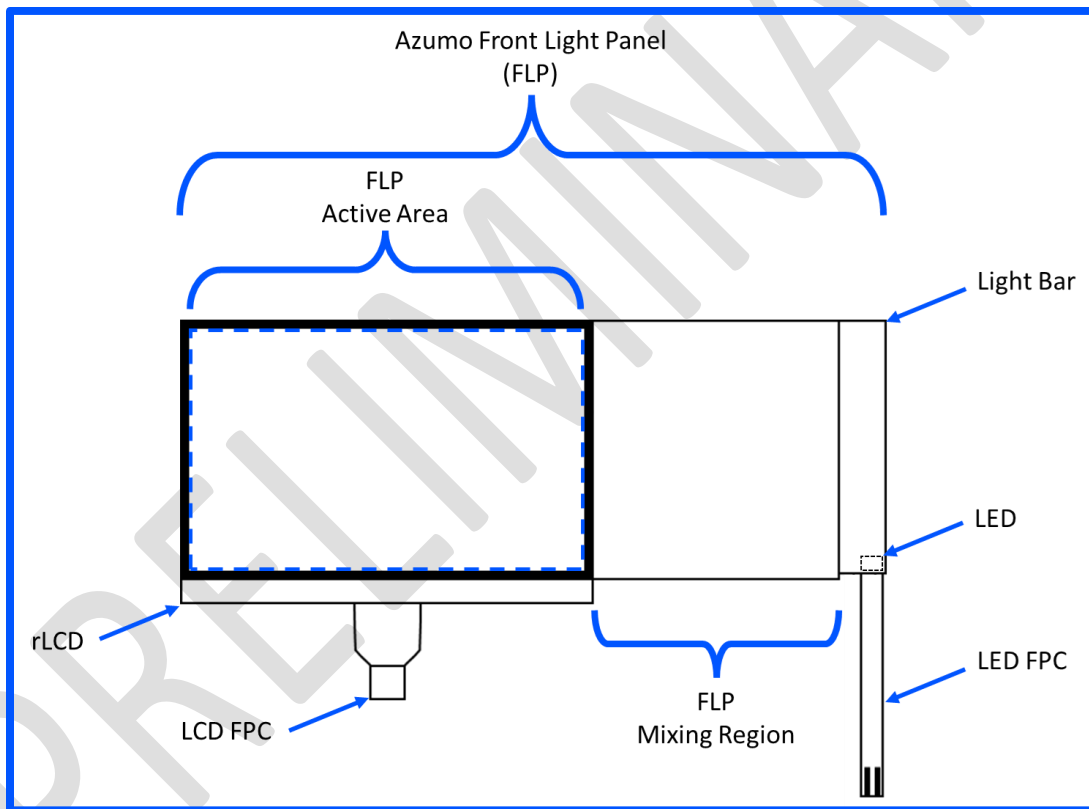
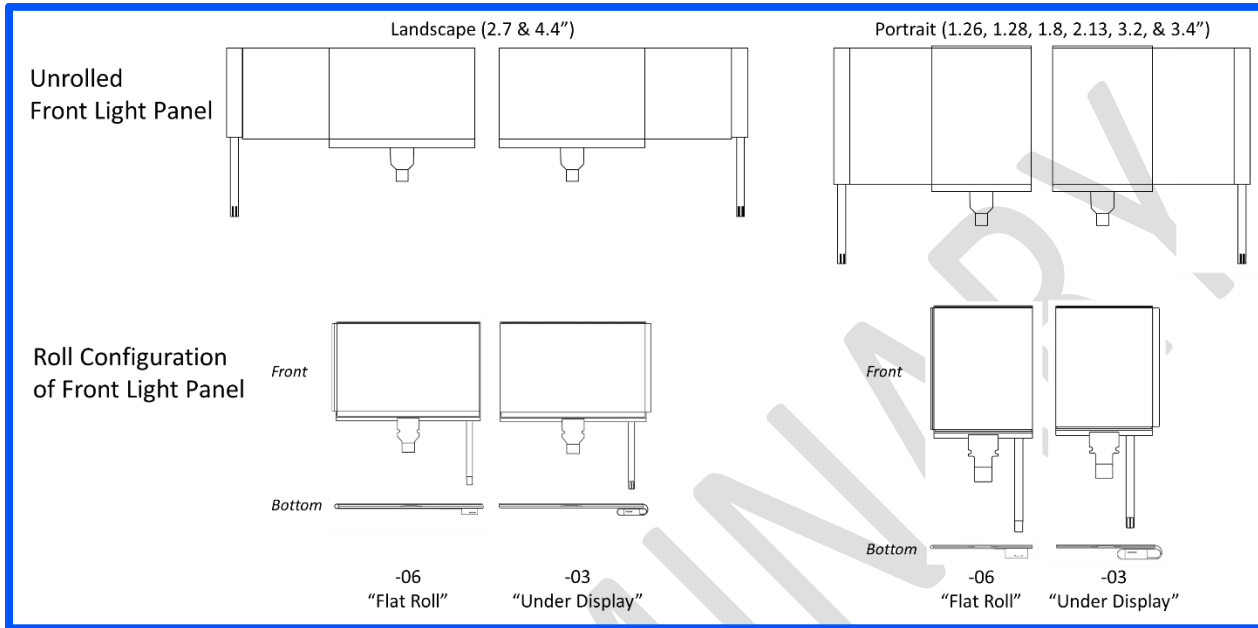
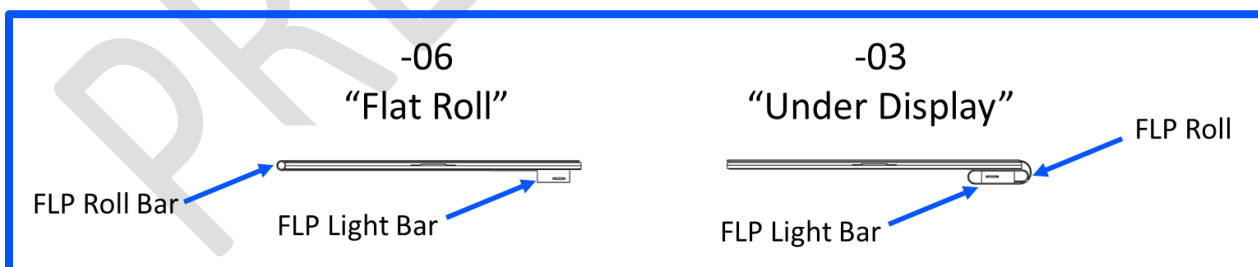

Figure 7. Diagram of Azumo LCD 2.0 FLP in unrolled state.
Figure 8. -06 and -03 roll configurations of the Azumo LCD 2.0 FLP
Figure 9. Bottom view of Azumo LCD 2.0 showing different roll configurations.
The Azumo LCD 2.0 product is composed of a reflective LCD panel (rLCD) and a front light panel (FLP) as shown in Fig. 7 below. The Azumo FLP is a highly engineered thin film light guide that requires knowledgeable handling to avoid unintended damage. The FLP is permanently bonded to the LCD panel through: 1) an optical bonding procedure of the FLP to the active area of the rLCD; 2) a separate roll procedure to bond the light bar to the LCD. Azumo uses different roll configurations to bond the lightbar to the rLCD as shown in Fig. 8. The final Azumo LCD 2.0 display panel is a complete assembly of the FLP to the rLCD as shown in Fig. 9 with the light bar laminated to the back of the LCD display panel. The following handling guide will address the proper handling of both the FLP and the LCD panel.
5. Mount the Azumo LCD 2.0 product within its final assembly by providing support along the back of the LCD panel and/or along the hard edges of the LCD panel glass not covered by the FLP, as shown in Fig. 7. Avoid mechanical contact with FLP.